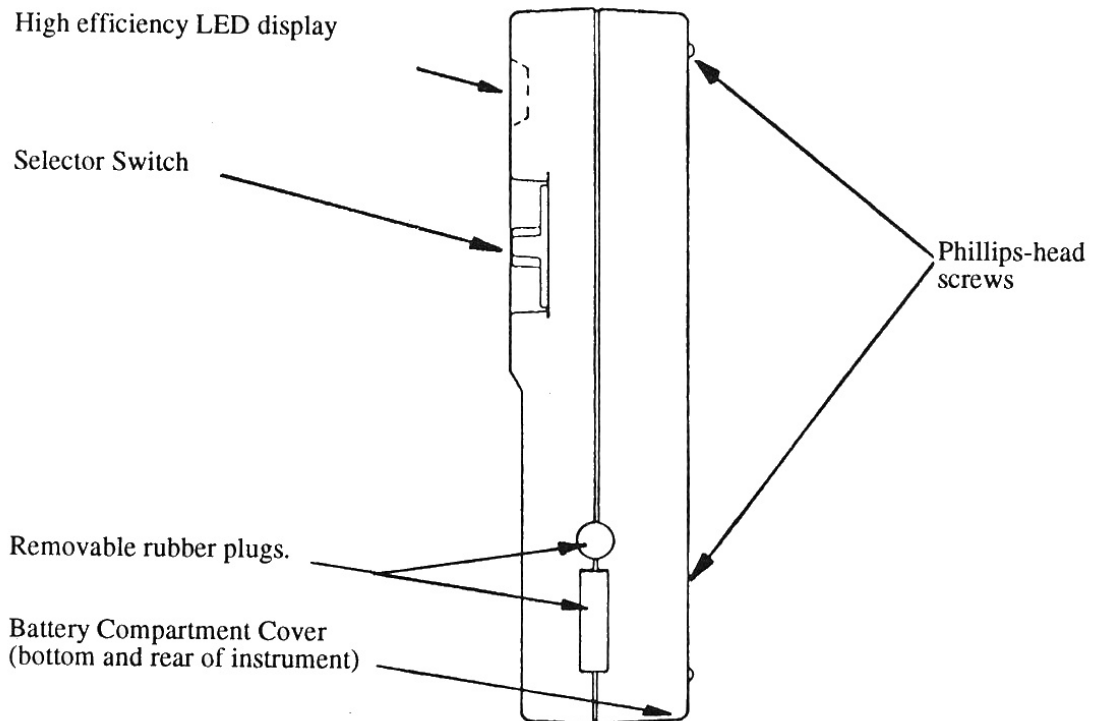

Fig. 8.
1. Place the selector switch to OFF and remove the two Phillips-head screws from the back of the case (see Fig. 8).